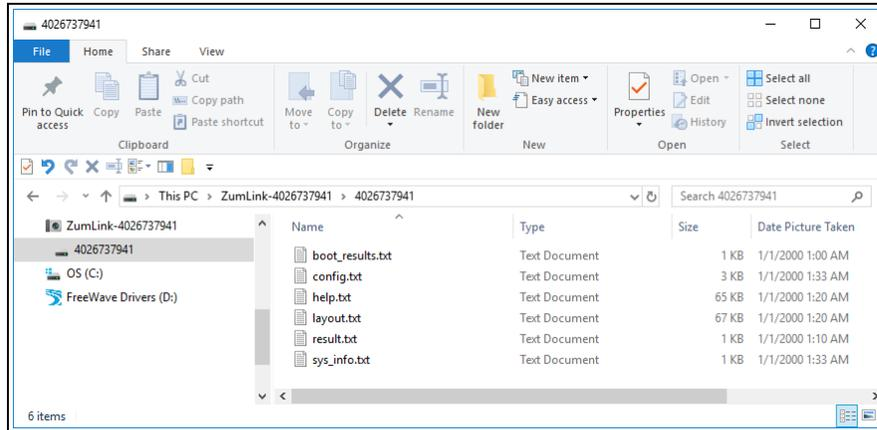

Figure 91: Opened ZumLink window showing the Default Files
2. In the Z9-P or Z9-PE window, double-click the connected device. The files of the Z9-P or Z9-PE appear in the window. Figure 91